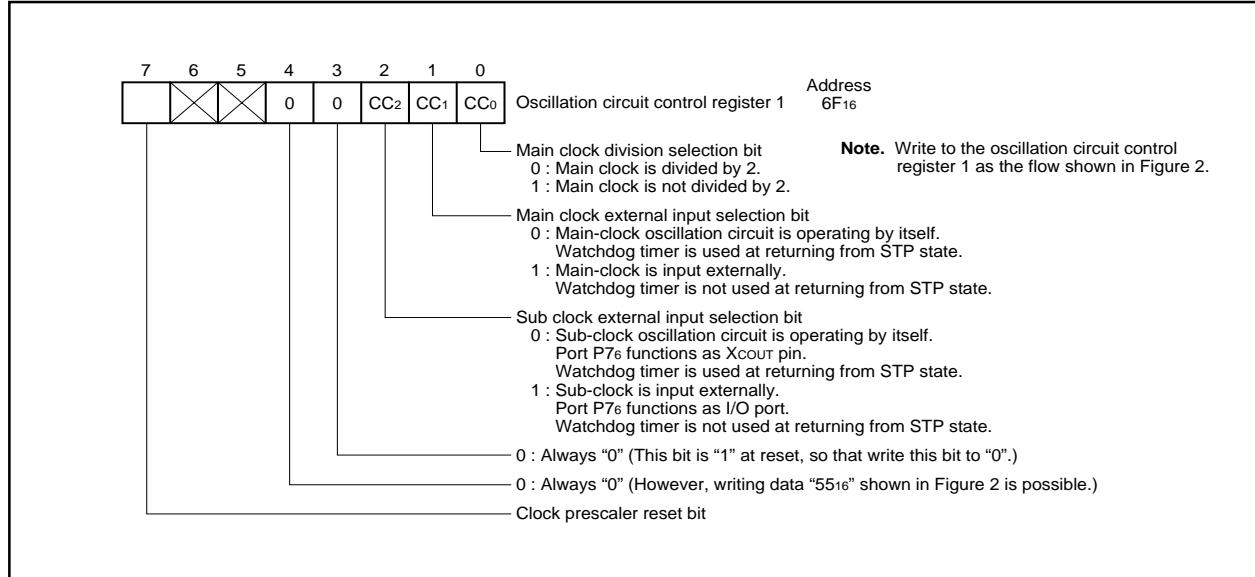

Fig. 1 Bit configuration of oscillation circuit control register 1 (corresponding to Figure 63 in data sheet "M37735MHBXXXFP")
- (1) The built-in ROM is PROM.
- (2) The status of bit 3 of the oscillation circuit control register 1 (address 6F16) at a reset is different.
- (3) The usage condition of bit 3 of the oscillation circuit control register 1 is different.
- (4) Part of the processor mode selection method is different.
- Accordingly, refer to the basic function blocks description in the M37735MHBXXXFP except for Figure 1 (bit configuration of oscillation circuit control register 1), Figure 3 (microcomputer internal status during reset), and Table 1 (microprocessor mode selection method).
- In the M37735EHBXXXFP, bit 3 of the oscillation circuit control register 1 must be "0". (Refer to Figure 1.) Bit 3 is "1" at a reset. Accordingly,